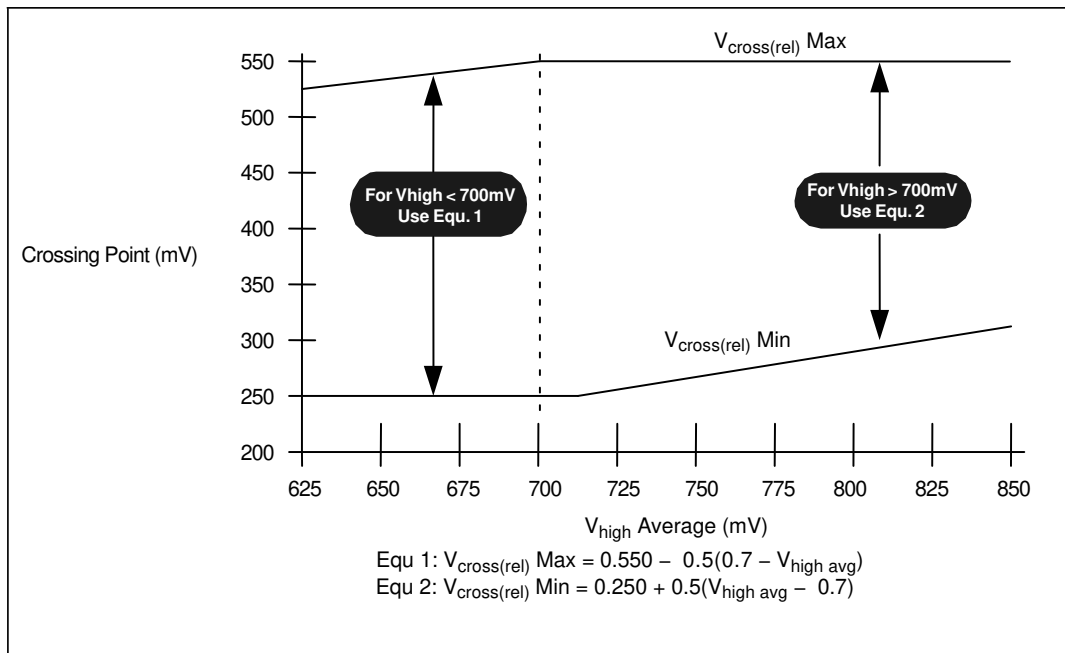

Figure 16. V_{cross} Range Clarification (Note 40)
16. $V_{cross}(rel)$ Min and Max are derived using the following, $V_{cross}(rel)$ Min = $0.250 + 0.5 (V_{high\ avg} - 0.700)$. $V_{cross}(rel)$ Max = $0.550 - 0.5 (0.700 - V_{high\ avg})$. (see Figure 16 for further clarification).